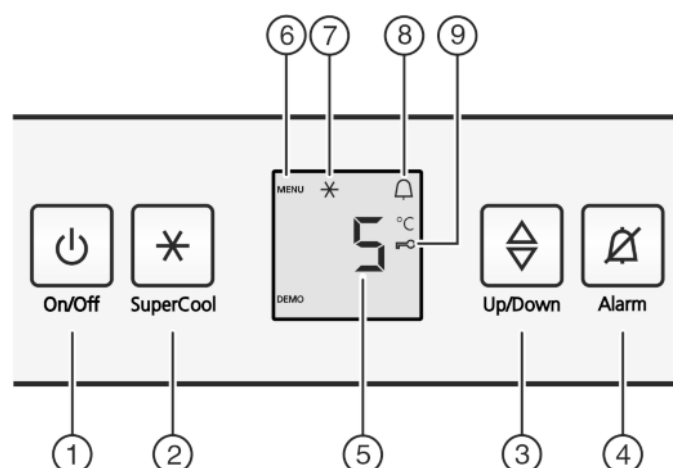

Fig. 2
- Press the On/Off button *Fig. 2 (1)*.
- Press the SuperCool button *Fig. 2 (2)* for about 5 seconds.
- ▷ The Menu symbol is shown on the display, *Fig. 2 (6)*.
- Confirm briefly with the SuperCool button *Fig. 2 (2)*.
- ▷ The child lock symbol, *Fig. 2 (9)*, lights up on the display.
- ▶ Confirm briefly with the SuperCool button *Fig. 2 (2)*.
- ▶ Briefly press the On/Off button *Fig. 2 (1)*.
- ▶ Press alarm button *Fig. 2 (4)*.
- ▶ Call up temperature function: press the setting button *Fig. 2 (3)*.
- ▶ Change the temperature in 1 °C steps: Press the setting button *Fig. 2 (3)* until the required temperature is indicated in the temperature display.
- ▶ Briefly press SuperCool button *Fig. 2 (2)*.
- ▷ The SuperCool symbol *Fig. 2 (7)* lights up in the display.
- ▷ The SuperCool symbol *Fig. 2 (7)* goes out in the display.